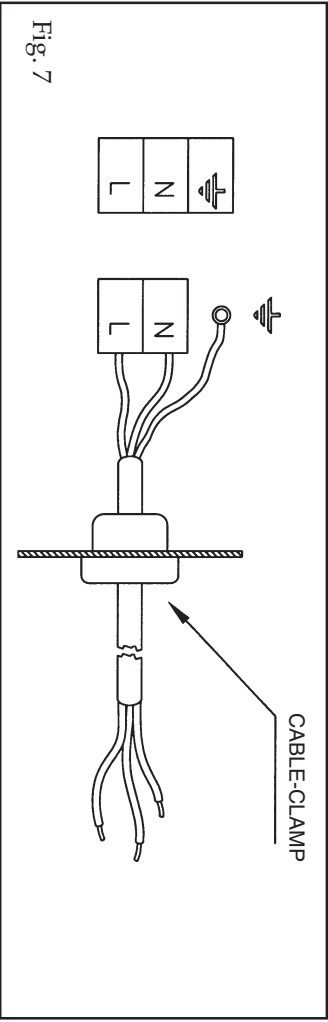

Fig. 7
- replace the injectors (Fig. 7) with the corresponding type of gas to be used (see table "Uses characteristics").
(Fig. 7) Prior to carrying out the electrical connection, please ensure that: